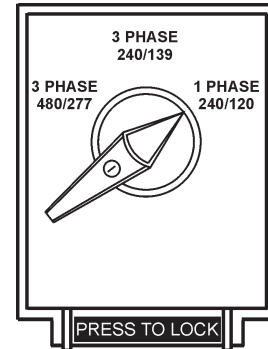

Figure 39. Voltage Selector Switch
1. Place the **voltage selector switch** in the desired voltage position (Figure 39)..